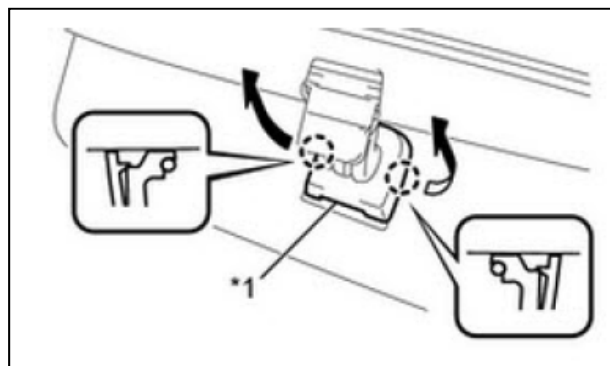

Figure 2
2. Pinch the cover and detach the 2 claws. Then remove the cover. See Figure 2.